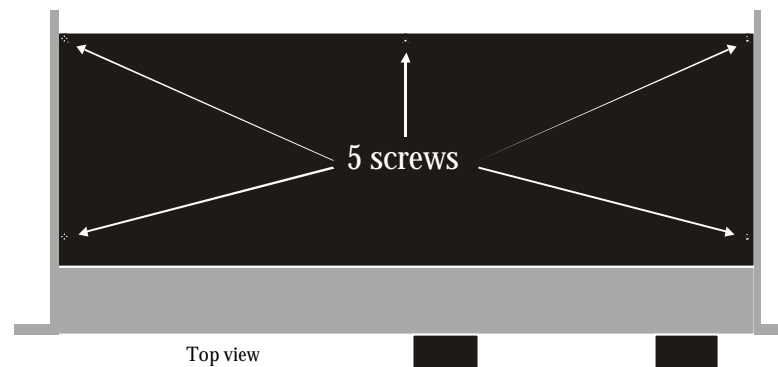

Fig. 1: Screws on top lid
- C. Remove the top lid by loosening five screws, see fig.1.
3. Remove the top lid by loosening five screws, see fig.1.